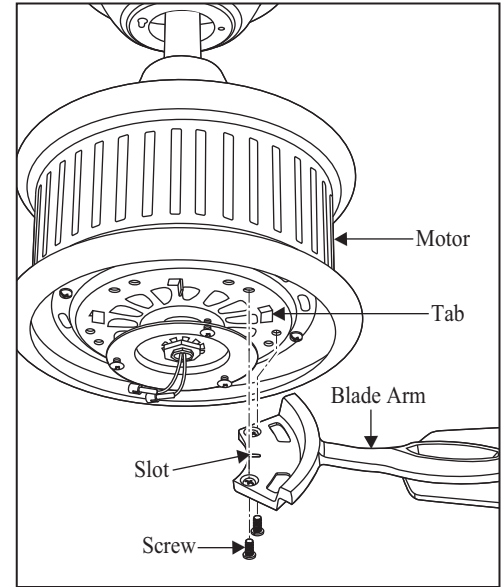

Figure 15
3. Fasten the blade assemblies to the motor housing by lining up the slots of the blade arms with the tabs on the motor housing, then tighten the two screws and washers already installed in the blade arms (Figure 15).